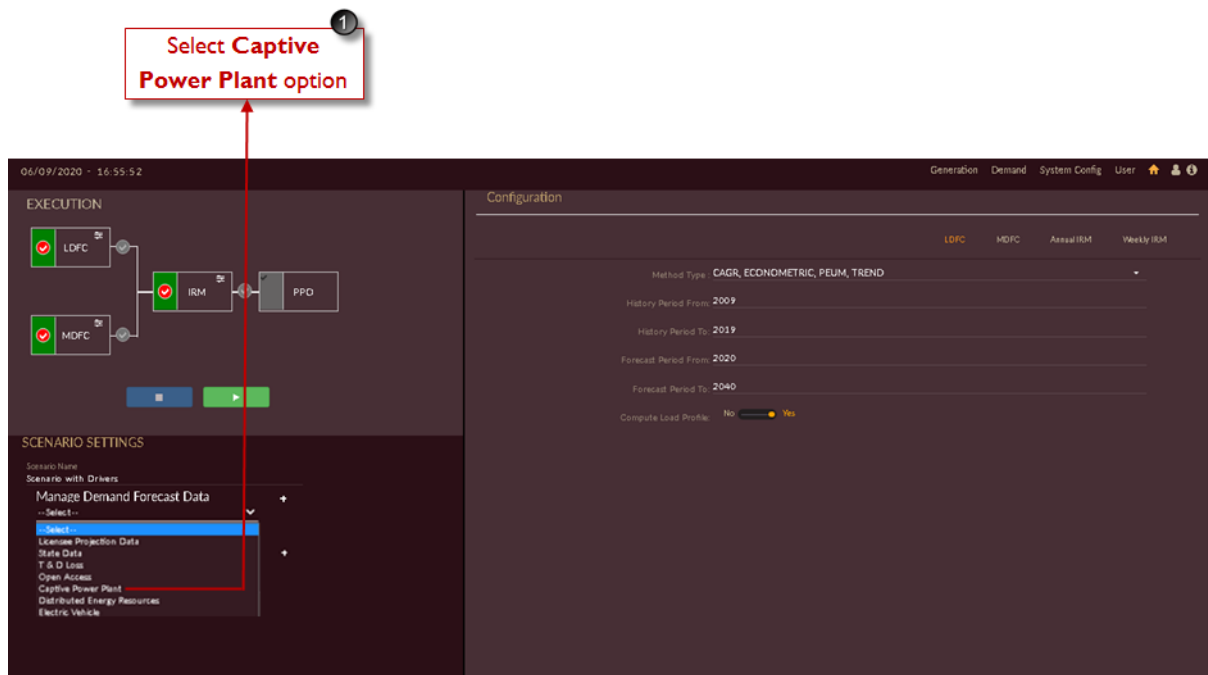

Figure 101. Manage Captive Power Plant Data
1. Click on **Manage Demand Forecast Data**  icon and select **Captive Power Plant** from the drop-down list as shown in Figure 101.